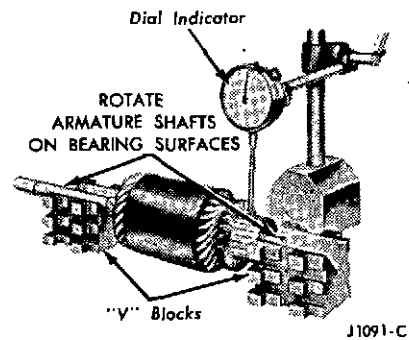

FIG. 10 Commutator Runout Check
4. Check the commutator for runout (Figure 10). Inspect the armature shaft and the two bearings for scoring and excessive wear. On a starter with needle bearings apply a small amount of grease to the needles. If the commutator is rough, or more than 0.005 inch out-of-round, turn it down.